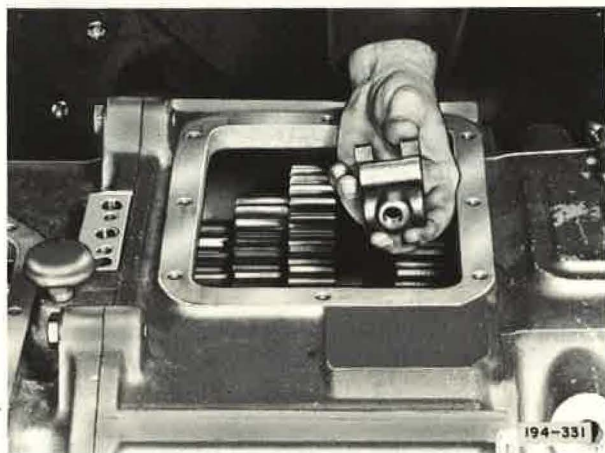

Figure 43. Installing First and Reverse Shifter
27. Install first and reverse speed shifter rail through front of case and first and reverse speed shifter. See Figure 43. Advance rail through intermediate bore of case, first speed fork, front snap ring, reverse speed fork and rear snap ring until rail reaches neutral position. Install fork and shifter setscrews and tighten to recommended torque.